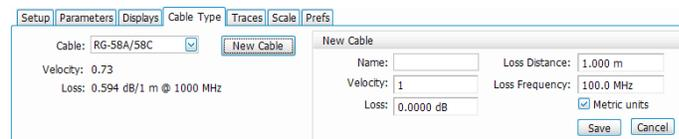

FIGURE 6. Selecting a cable type or defining a new cable.
7. Select the Cable Type tab and specify the cable type. If the cable type is not listed, you can add a cable by clicking the New Cable button. This provides access to the New Cable panel where you can add a name, propagation velocity constant, and loss for the cable as show in Figure 6.